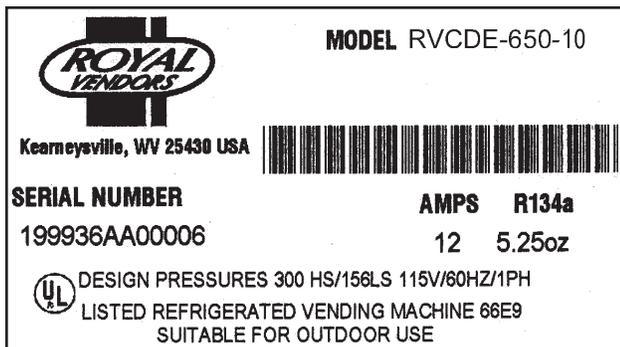

Figure 1.2. Current vender serial plate.
**Note:** There are two styles of serial plates issued. See figures 1.2 and 1.3.
VENDER SERIAL PLATE - The vender’s main serial plate (shown in figures 1.2 and 1.3) is located on the exterior left side of the vender’s main door and has the following information:
### How to read the newer-style serial number (figure 1.2):
The refrigeration serial plate is located at the bottom of the vender's cabinet in front of the condenser coil. It is mounted to the refrigeration unit kick plate. It looks similar to the serial plate shown in Figure 1.2, with the exception that the model number specified is the refrigeration unit model (as shown below). There is currently one model in use: